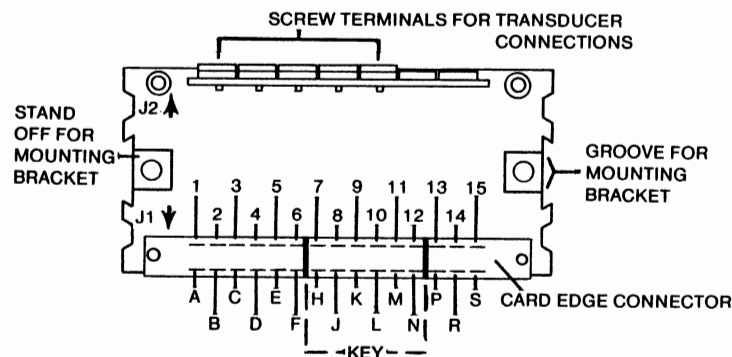

Figure 3. Rear View (Card Edge Connector in Place)
6. Fit the card edge connector onto strip J1 at the rear of the MDTR, as shown in Figure 3 (numbers on top, letters on bottom). Use the two 4-40 x 1/2 inch self-threading screws to secure the connector to MDTR standoffs.